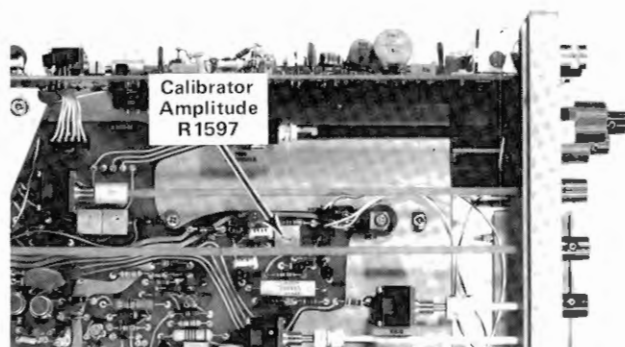

Fig. 5-35. Location of CALIBRATOR Amplitude adjustment.
- d. ADJUST—Calibrator Amplitude adjustment, R1597, (see Fig. 5-35) for 0.3 volt, within 1% from 0°C to +40°C; for 0.3 volt, within 1.5% from -15°C to +55°C.